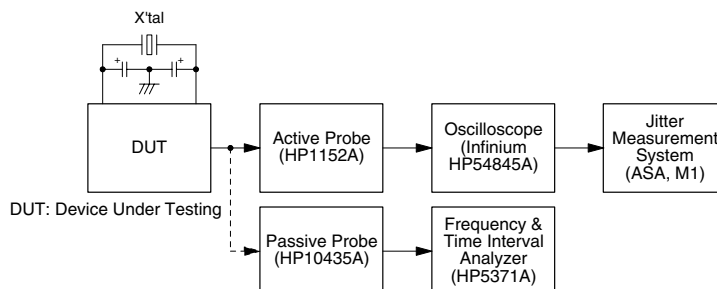

Figure 1. Measurement circuit
*2. Measured using the circuit in Figure 1 on the NPC standard evaluation board.